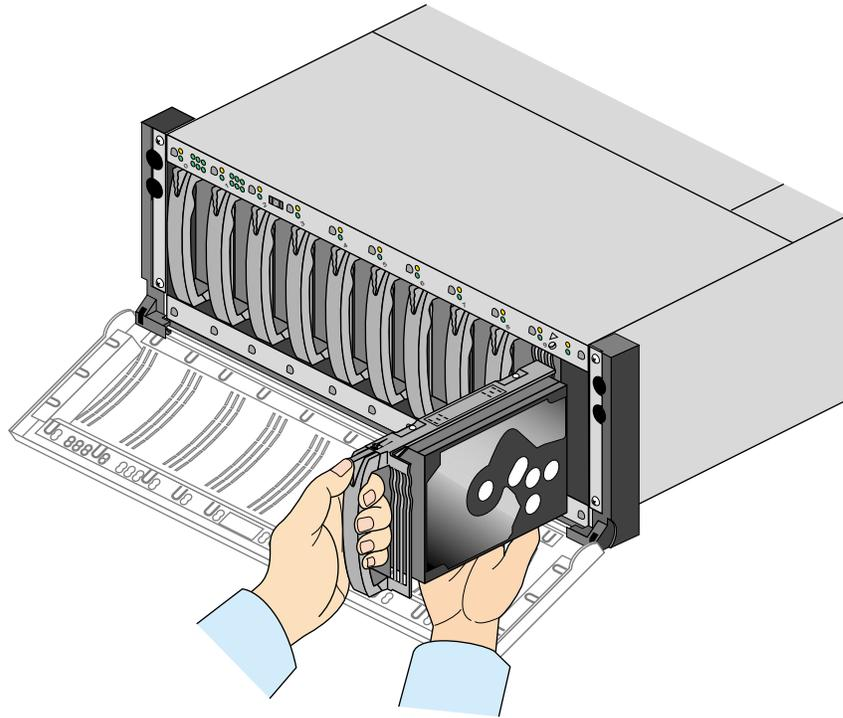

Figure 4-1 The Disk Module
10. Push the latch and slowly pull the module from the slot, supporting it with your other hand, see Figure 4-1. The disk module's active and check LEDs turn off. If power is on and if the disk you removed was bound in a RAID LUN, wait for the active LEDs of the other disk modules in the loop to resume blinking at a regular interval, which indicates that the driver has completed any necessary loop discovery.